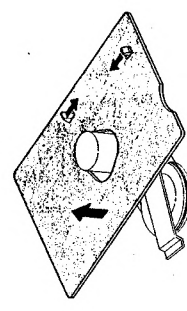

Fig. 10
- 1) Remove 7 screws. (Refer to Fig. 10, 11)
- 1) Remove the rec./pb. circuit board. (Refer to Fig. 10)